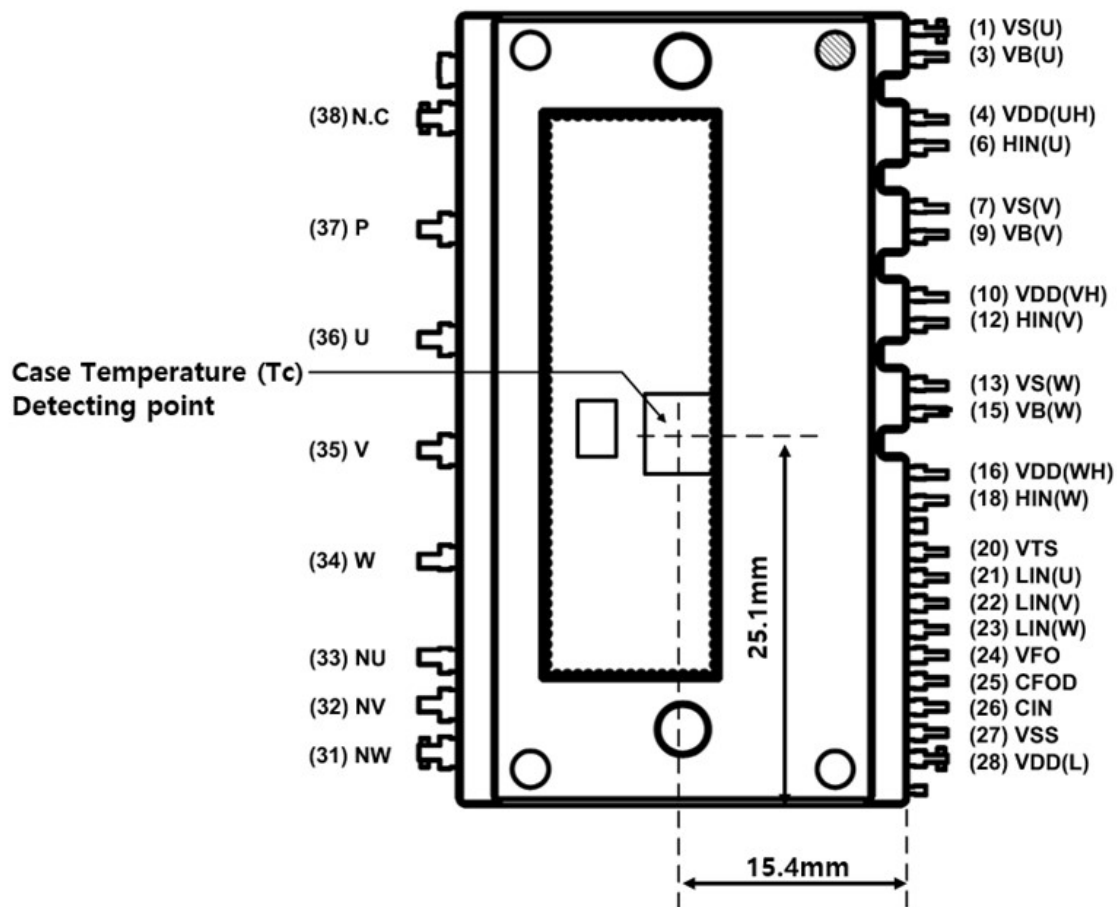

Figure 1. Pin Configuration – Top View
| Tc        | Case Operation Temperature                                                 | See Figure 1                                                       | –40 ~ 125 | °C   |
3. For the measurement point of case temperature (Tc), please refer to Figure 1.